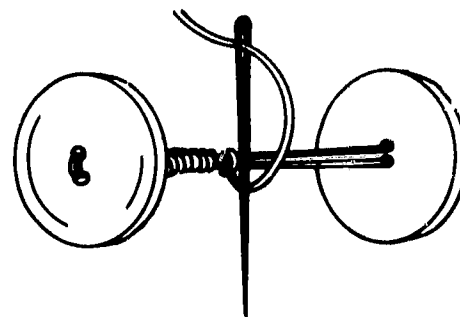

Figure 98.
4. Form a bar tack between buttons by making blanket stitches over the thread. Keep stitches close together (see Figure 98).